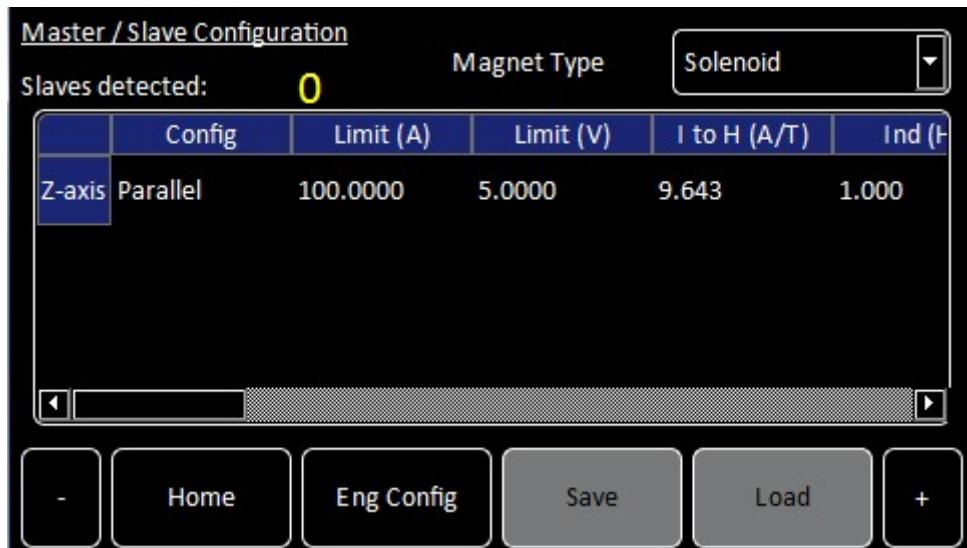

Figure 9. Magnet configuration screen of the Mercury iPS
its position on the RS485 modbus. So for example, an iPS 240-10 is will consist of 1 x iPS-M plus 3 x iPS-S units. The slaves detected should equal 3, the units will be labelled PSU.M1, PSU.M2, PSU.M3 and PSU.M4. The slaves detected parameter (Figure 9) is updated every time the iPS system is booted.
The "Magnet Type" drop down box allows the choice of three magnet types "Solenoid", "Split Pair" and Vector Rotate" (Figure 9). At the time of writing there is no operational difference between Solenoid and Split Pair, these are just single axis current supply systems. A "Vector Rotate" magnet however, is a set of 2 or 3 coil split-pairs arrange orthogonally to form a Z-axis and an X-axis (2 coil pairs), or a Z-axis, X-axis and a Y-axis (3 coil pairs). Putting the Mercury iPS into "Vector Rotate" mode will add Y-axis and X-axis rows to the "Config" table, will add Y-axis and X-axis groups to the "Eng Config" pages and will add X-axis and Y-axis control panels to the iPS Home screen.
4.4 The Configuration Table (Figure 9)